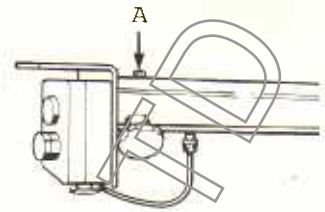
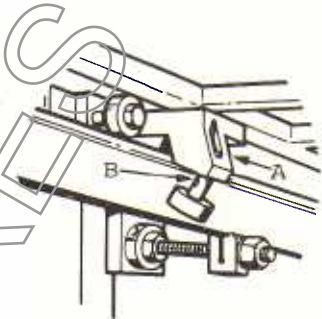

Fig. 3n
Fig. 3f
4. Fit the roller assy SM1545 to sliding table SM1544 see Fig 3j, one nut & washer each side of mounting flange. Then with the stop screw 'A', switch & locking handle (Fig 3n) removed. The table with its nylon rollers can be slid onto table rail and the roller assy SM1545 (Fig 3j) lowered onto the support arm. Replace stop screw, switch and locking handle. The 3 nylon rollers (Fig 3e) have been pre-set to give a good sliding action of the table with a minimum of free play. if adjustment is required, roller No.3 (Fig 3e) is mounted on an eccentric pillar, therefore slacken off the soc. set screw in casting body (arrow A Fig 3f), rotate mounting pillar (Tommy bar hole arrow B, Fig 3f) to achieve required fit and retighten soc. set screw.